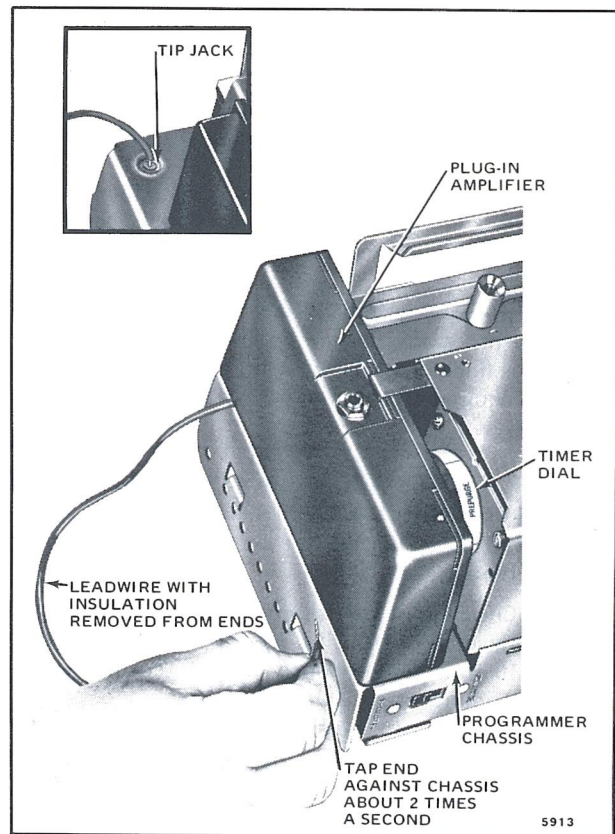

Fig. 13—Simulating flame for an infrared amplifier.
- (1) Complete step 4.b., above.
- (2) Remove the plug-in infrared amplifier.
- (3) Remove 3/4 inch of insulation from each end of a 10 inch length of insulated wire. Plug one end of this wire into the tip jack on the front of the programmer chassis (Fig. 13).
- (4) Reinstall the plug-in amplifier and close the master switch to start the programmer.
- (5) After at least 15 seconds but before 50 seconds, set the timer switch to TEST position and wait until the timer stops.
- (6) Tap the free end of the wire against the programmer chassis at a rapid frequency (about 2 times a second) to simulate flame. Relay 2K should pull in and stay in while flame is simulated.